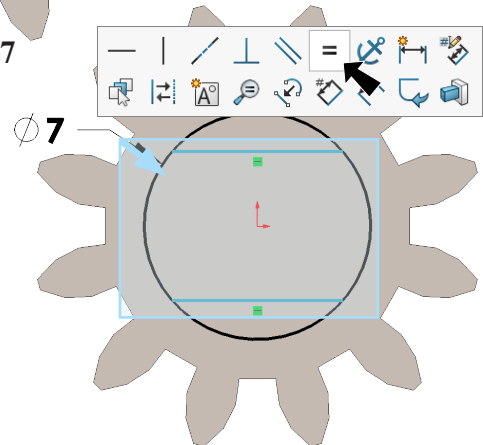

Fig. 8
Step 7. **Drag selection to right to select both lines** and click **Make Equal**  on the context toolbar, **Fig. 8**.